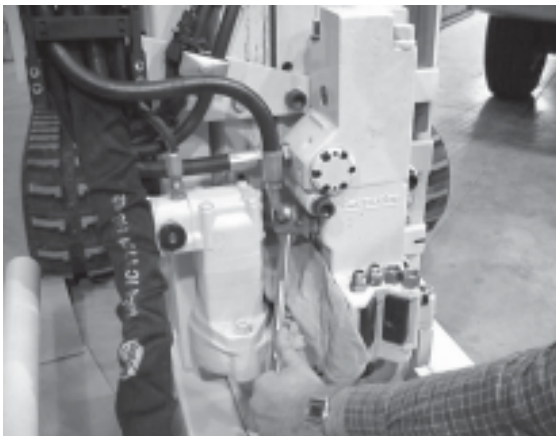
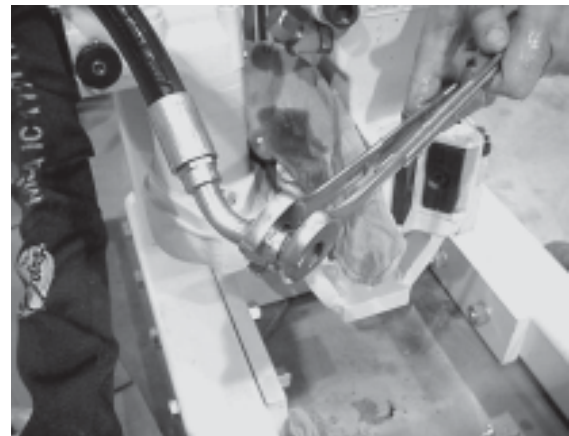

Figure 4. Remove hydraulic hoses from hammer.
Figure 5. Cap and plug hydraulic hoses.
6. Disconnect the two hydraulic hoses from the hammer (Fig. 4) and install an SAE #10 plug or cap on each fitting (Fig. 5). Note location of hoses to ensure proper routing during reinstallation.
8. Reconnect the hydraulic hoses to the hammer and hammer motor. Refer back to Figure 4 to determine proper routing of hoses.
Note that the two larger (# 10) hoses attach to the hammer. First connect the hose with the straight fitting. Then route the hose with the 45° fitting in front of the first hose and connect it to the hammer as shown in Figure 4. Now attach the smaller (# 6) hose with the straight fitting to the top of the hammer motor (Fig. 4). The remaining hose (90° fitting) connects to the back of the hammer motor.